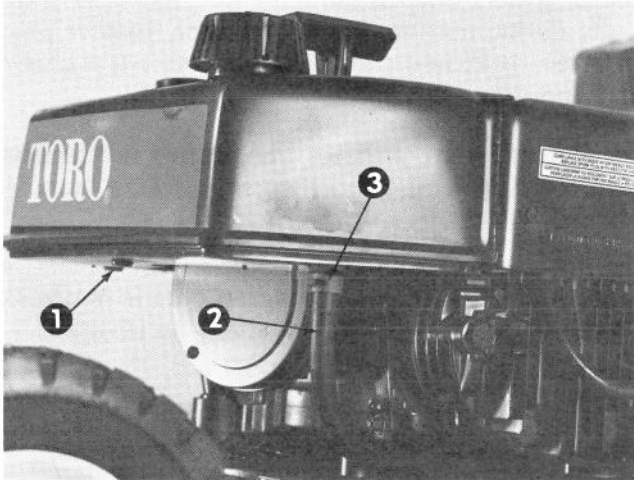

Figure 23
2. Place a clean, shallow drain pan below the fuel tank (Fig. 23).
3. Squeeze ends of clip holding fuel line on fuel tank fitting (Fig. 23). Slide clip down fuel line.